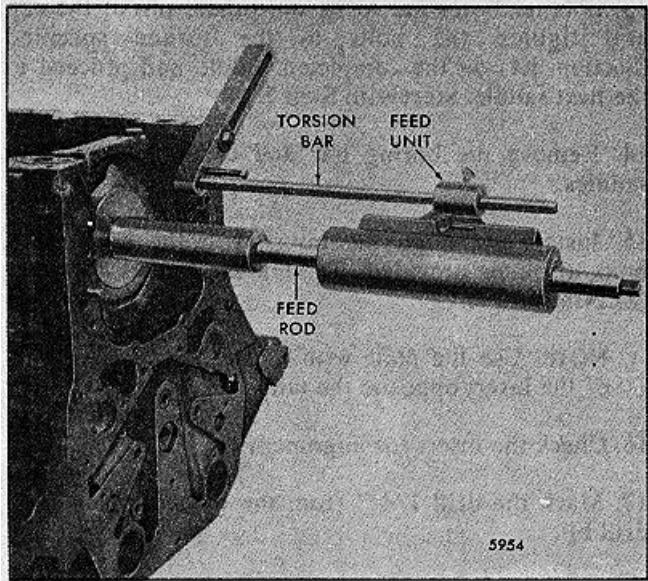

FIG. 4 Location of Feed Rod and Unit
6. Fasten the torsion bar and the hydraulic feed unit on either end of the cylinder block. Index the flat on the feed rod into the boring bar. Snug the set screw (Fig. 4).
on either end of the cylinder block. Index the flat on the feed rod into the boring bar. Snug the set screw (Fig. 4).